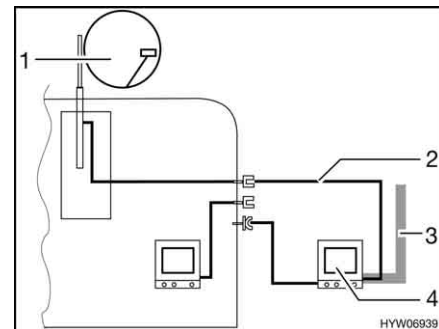

Fig. 180 TV in the awning
- TV inside the awning (Fig. 180,4): Connection to roof antenna (Fig. 180,1) with connection cable (Fig. 180,2)
- TV inside the awning (Fig. 180,4): Connection to external antenna (Fig. 180,3)